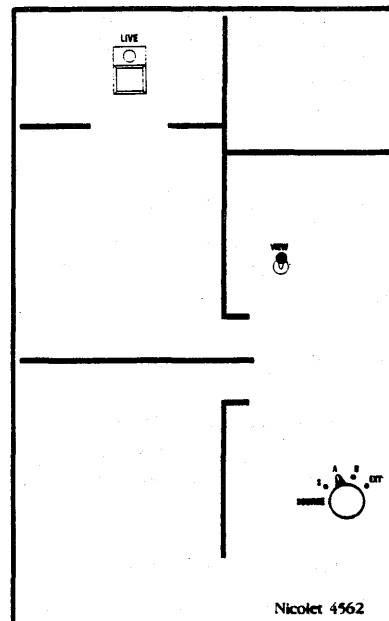

Figure 6-14
- #11. Place the trigger VIEW switch to the VIEW position (Figure 6-14).
- #13. Press the LIVE button (Figure 6-14).